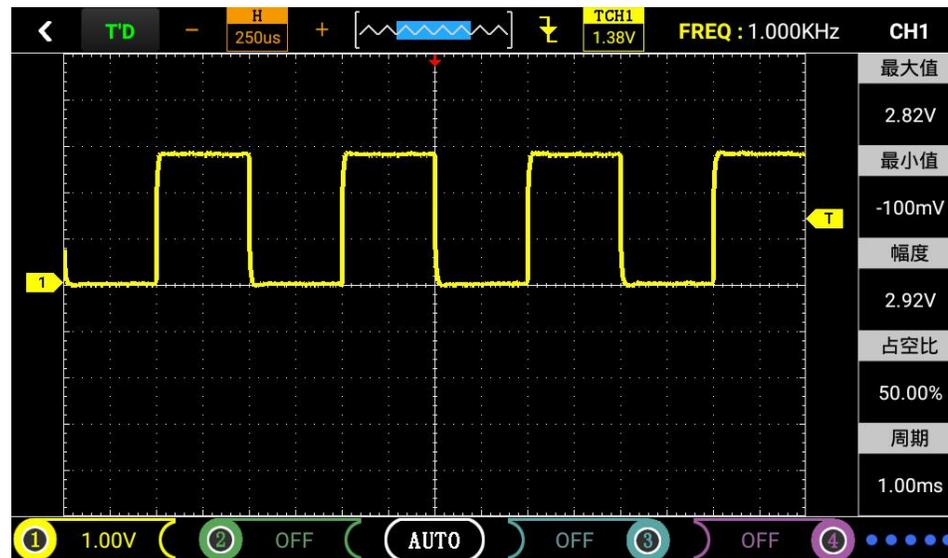

Figure 3-3
- If no signal is found, channel 1 is connected to a signal and click on the "AUTO" button. As shown in Figure 3-3: